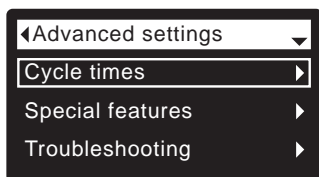

FIG. 74*
3. Press the SELECT (O) button to display the Advanced settings menu (See Figure 74*).